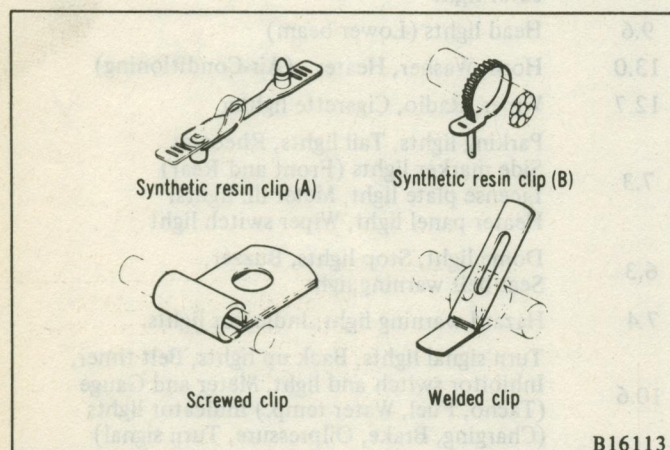

Fig. 79 Various Clip and Their Use
(1) The harness should be clamped securely at specified locations. In addition, at positions where harness insulating coating is liable to be damaged due to contact with moving parts, vibration, sliding, sag, etc., provide clips as required and clamp the harness. (Fig. 79)